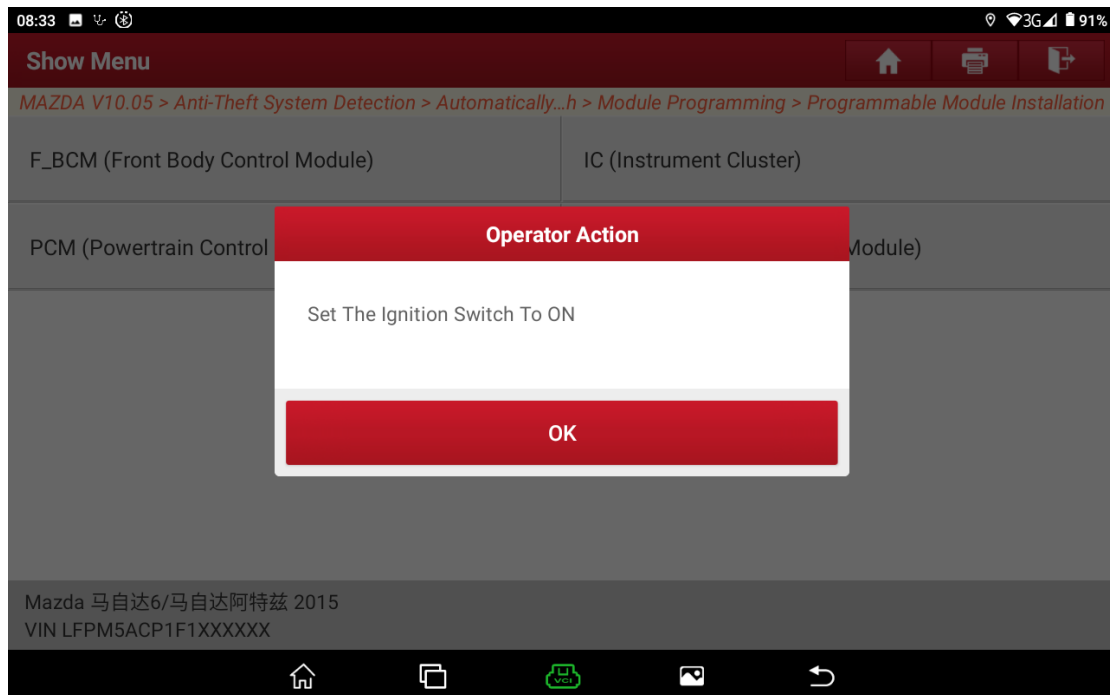

Figure B17
14. Turn on the ignition switch. See Figure B17.